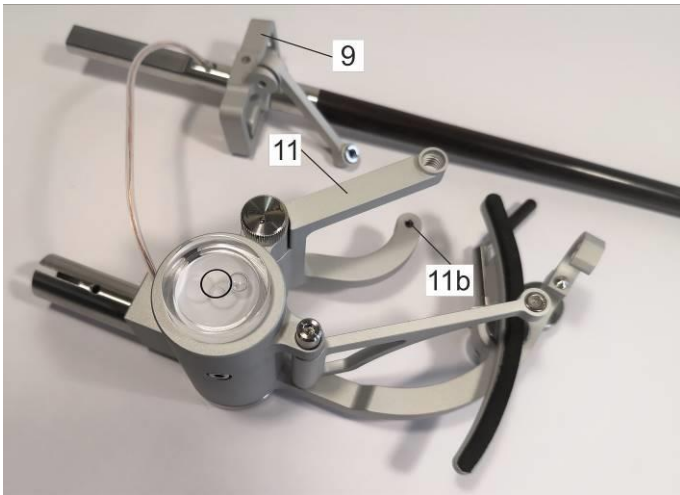

Figure 7
- l) Take the tonearm frame with lever and armwand [9] and set it on a bottom bearing [11b] of the back link [11] vertical axis (Figure 7). **Needle of the bearing must be embedded in sapphire V cup.**